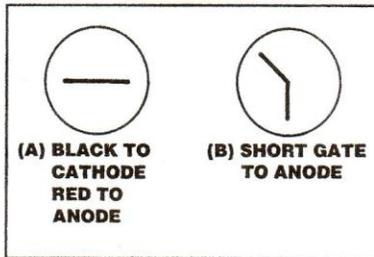

Fig. 5—Thyristor (SCR) test pattern. Again the black probe goes to the cathode and the red to the anode.
SCR Thyristor. The test result of this device is shown in fig. 5. To get a meaningful reading place the black probe on the cathode (C) and the red probe on the anode (A) and short the gate to the anode. (A similar test can be done on TRIACS by using Main Terminals 1 and 2 (MT1, MT2) and bridging over the test probe.)